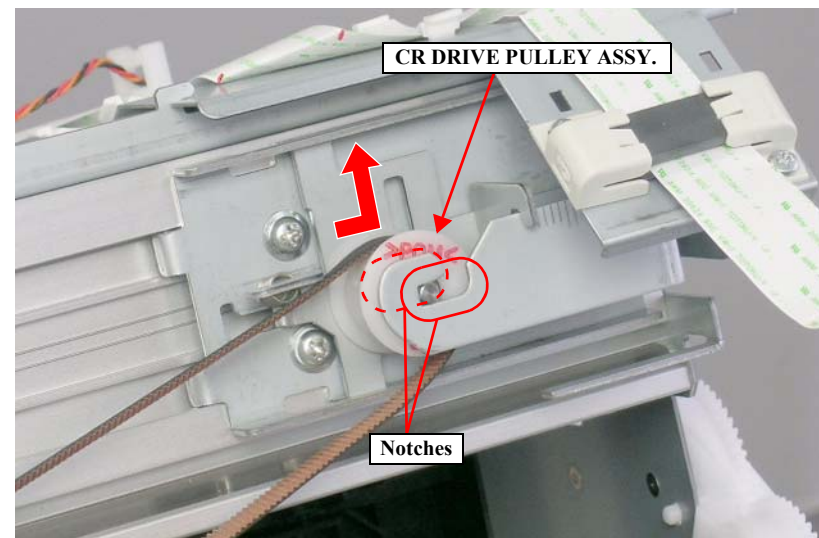

Figure 4-55. Removing the CR BELT (2)
5. Remove the CR DRIVE PULLEY ASSY. and the CR BELT from the two notches of the Driven Pulley Tension Plate, and remove the CR BELT from the CR DRIVE PULLEY ASSY. *See Figure 4-55.*